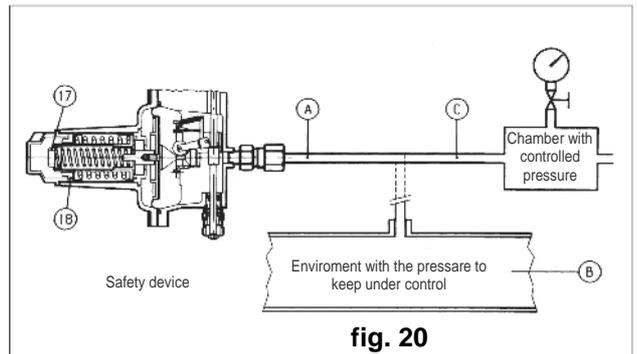

fig. 20
- B) On devices without the "push" valve (fig. 20) we recommend connecting the control head separately to a controlled auxiliary pressure and repeating the operations described above
- B)** On devices without the "push" valve (fig. 20) we recommend connecting the control head separately to a controlled auxiliary pressure and repeating the operations described above.